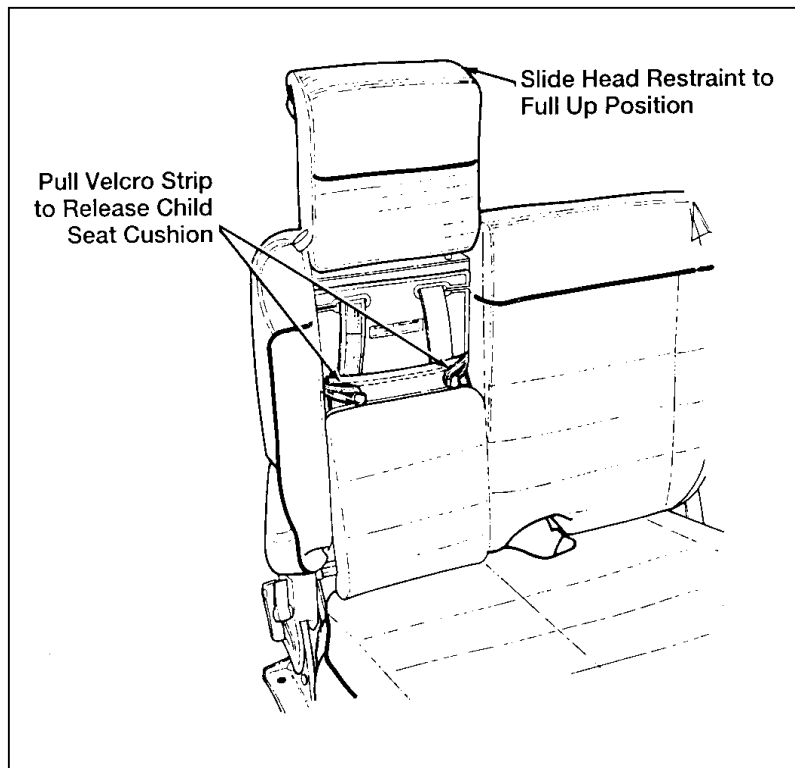

Figure 4: Positioning child safety seat head restraint and release of child seat cushion
2. Release strap and slide the head restraint to the full up position. Refer to Figure 4.
3. Pull both velcro straps to release the child seat cushion. Refer to Figure 4.
2. Rotate the child seat cushion upward, securing both velcro straps. Refer to Figure 4.
3. Slide the head restraint down until it is flush with the top of the adult seatback. Refer to Figure 4.